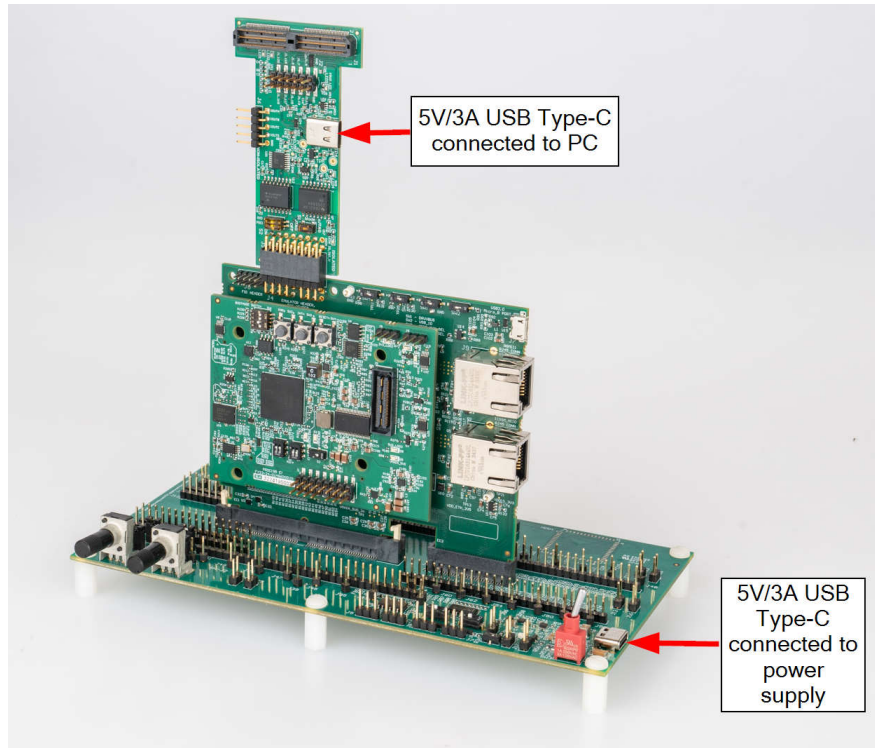
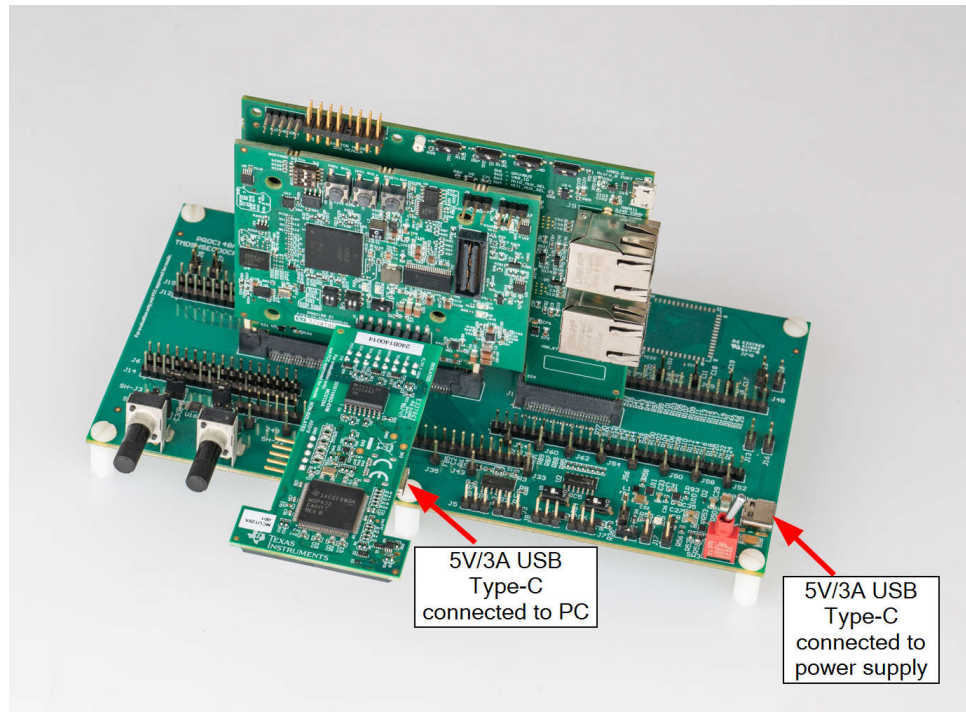

Figure 2-2. AM26x controlCARD Backward Compatibility Configuration - XDS110ISO Connected to HSEC180ADAPEVM-AM2 J4
Figure 2-3. AM26x controlCARD Backward Compatibility Configuration - XDS110ISO connected to controlSOM J7
- Connect the XDS110ISO-EVM into the connector J4 of the HSEC-180 adapter board (Figure 2-2) or J7 (Figure 2-3) of the controlSOM.